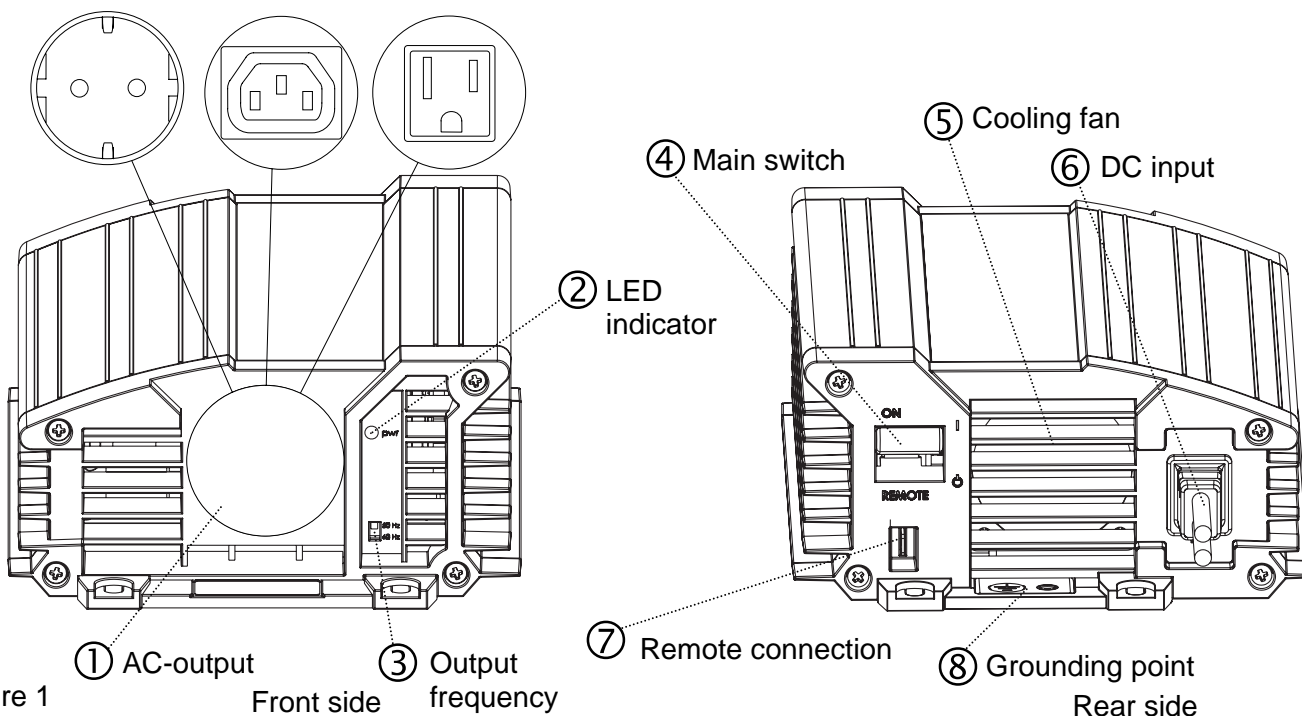

Figure 1
See figure 1. On the front side of the AC Master a small switch (3) can be found to adjust the output frequency.
- Before installing the AC Master make sure the main switch (figure 1, ref. 4) is set to the REMOTE / ⏻ position.